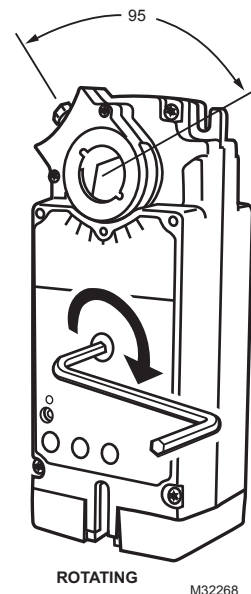

Fig. 7. Manual positioning.
2. Insert supplied hex wrench (key) as shown in Fig. 7.